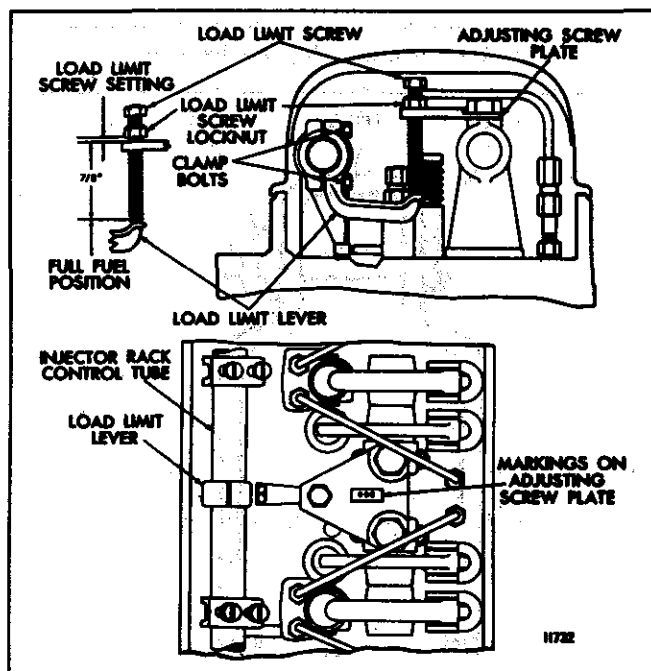

Fig. 1 - Engine Load Limit Device
Engines with mechanical governors may be equipped with a load limit device to reduce the maximum horsepower (Fig. 1)
After the engine tune-up is completed, make sure the load limit device is properly installed (Fig. 1). Make sure the counterbores in the adjusting screw plate are up. The rocker arm shaft bracket bolts which fasten the adjusting screw plate to the brackets are tightened to 50-55 lb-ft (68-75 N·m) torque. Then adjust the load limit device, on each cylinder head, as follows:
3. With the screw out of the plate, adjust the load limit screw locknut so the bottom of the locknut is 7/8" from the bottom of the load limit screw for the initial setting (Fig. 1).